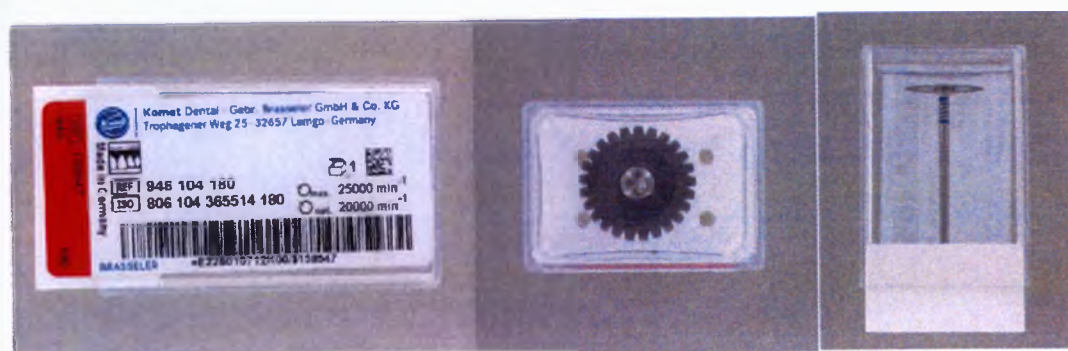

Figure 3
- Toothed, diamond coating on both sides (Figure 3)